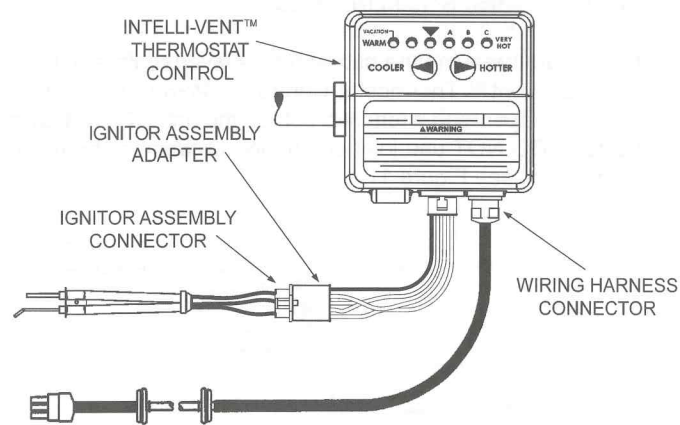

FIGURE 13.
If the 184960 Series gas control is replacing a 183760 Series gas control (such as when supplied with a conversion kit - from Propane to Natural gas), it will be necessary to install a "Ignitor Assembly Adapter". Locate the "Ignitor Assembly Adapter" from the kit and plug the male end into the Intelli-vent™ Thermostat Control, (184960 Series). Note: The connector is "keyed" so it can only be inserted one way. Make sure the connector is properly aligned before attempting to insert. Do not force the connector or damage to the control will result, see Figure 13.
19. Locate the Ignitor Assembly and connector that comes out of the combustion chamber of the water heater and plug the male end of the connector into the female end of the "Ignitor Assembly Adapter", see Figure 13.
1. "Wake up" the temperature indicators by depressing both the "COOLER" and "HOTTER" temperature adjustment buttons at the same time for one second (See Figure 13). One or two of the temperature indicators will light up. These indicators will only remain on for 30 seconds if no further button is depressed. After 30 seconds the control will go back into the "Sleep" mode, and both buttons will again have to be depressed to see the water temperature setting.